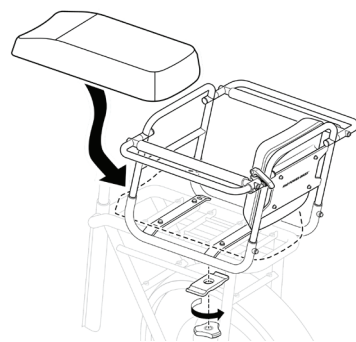

Figure 3 Install passenger seat on rear rack with threaded mounts.
- Position the seat on the rack so that the down bolt fits inside of the mounting window (see Figure 3).